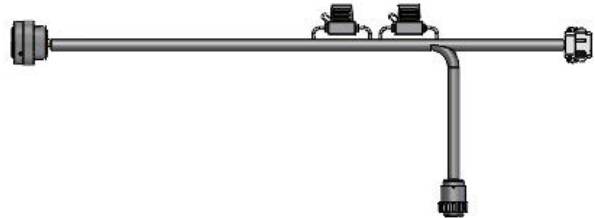

Figure 8: Updated joystick harness
10. Feed the new joystick harness, shown in *Figure 8*, into the cab of the tractor and connect it to the appropriate connection points.